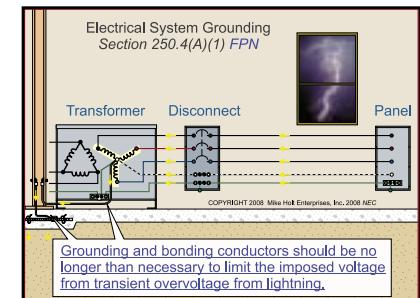

Figure 250-21
(B) Equipment Grounding Conductor. To quickly clear a ground fault and remove dangerous voltage from metal parts, the building or structure disconnecting means shall be connected to the circuit equipment grounding conductor of a type described in 250.118. Where the supply circuit equipment grounding conductor is of the wire type, it shall be sized to 250.122, based on the rating of the supply circuit overcurrent device rating. (See Figure 250-21)